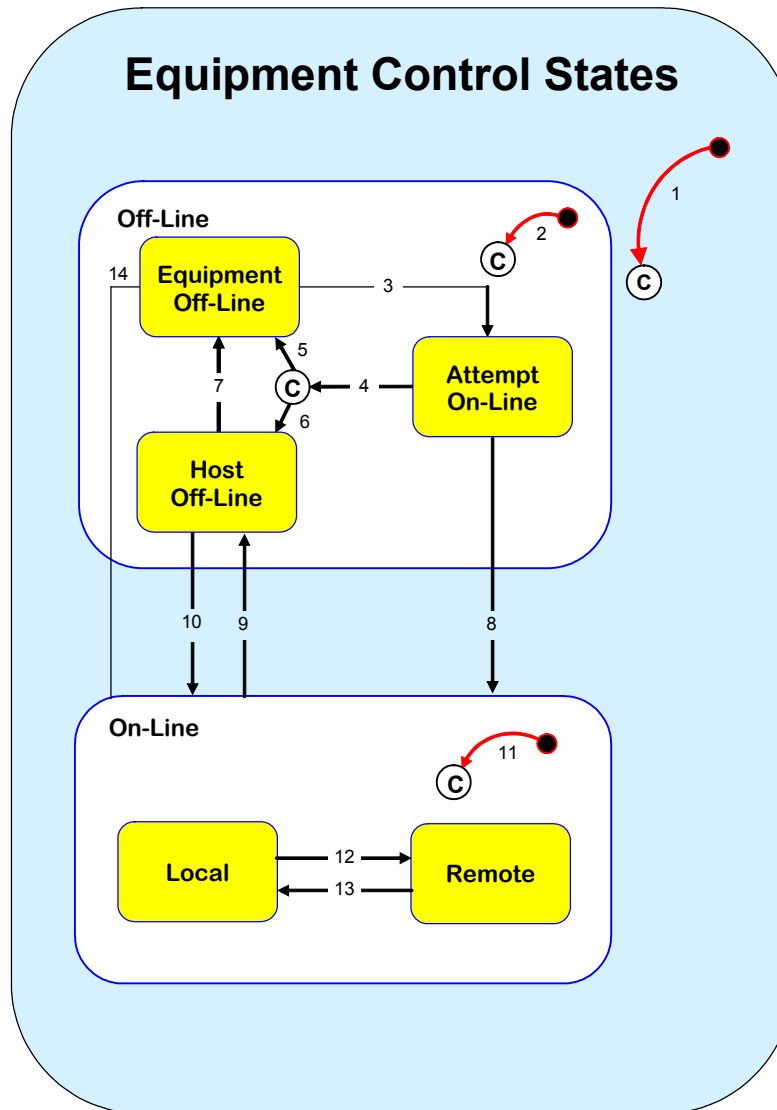

Figure 3-2 Equipment Control State Diagram
Figure 3-2 and Table 3-5 describe the Equipment Control State. The Equipment behaves differently and will accept different messages depending on its current control state. The purpose of this diagram is to make clear to the Host exactly what is happening at the Equipment. The logic for these states and transitions is the logic specified in the GEM standard.
**NOTE** Refer to Table 3-5 for definition of numbers used in Figure 3-2.
**NOTE** The numbers in the # column refer to those in Figure 3-2.